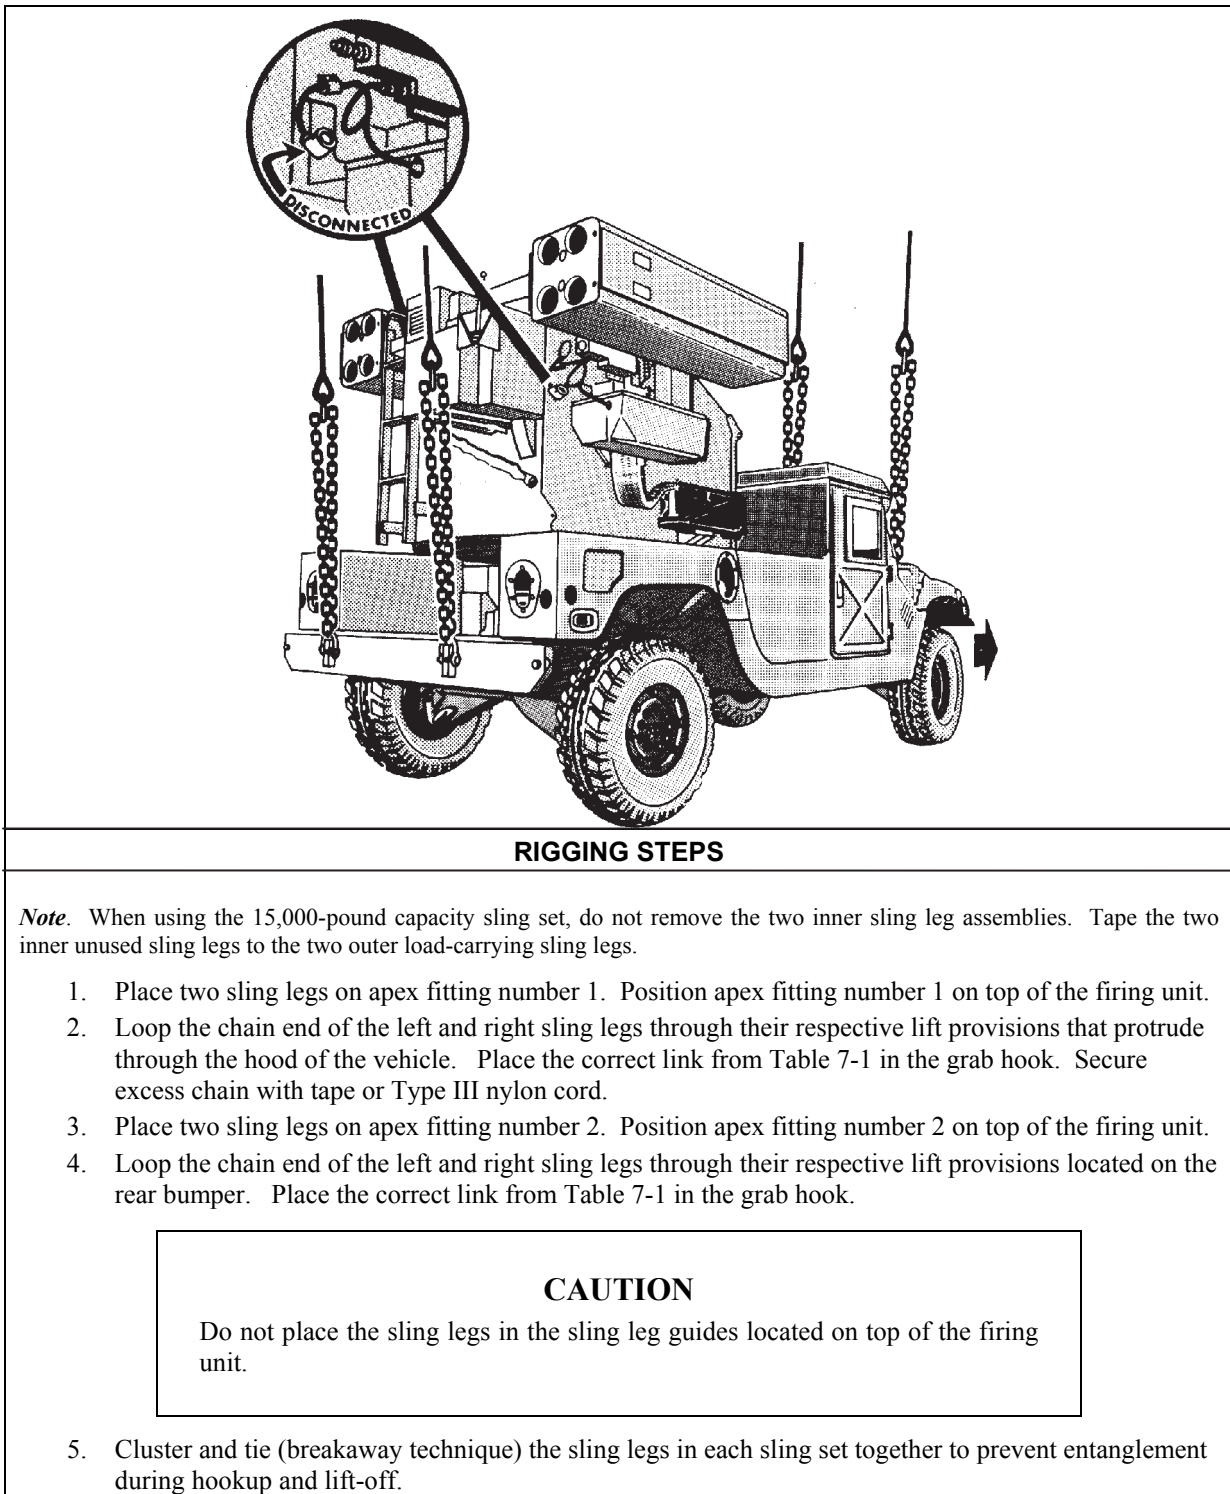

Figure 7-1. Avenger
- **Rigging.** Rig the load according to the steps in Figure 7-1.